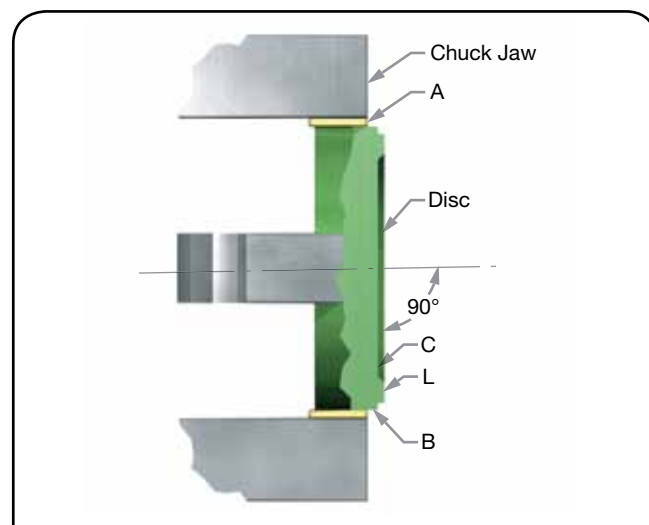

Figure 32: Standard Disc Seating Surface
1. Grip the disc (6) in a four-jaw independent chuck (or collet, if appropriate), using a piece of soft material such as copper or fiber between the jaws and the disc (see Figure 32, A).
2. True-up the disc (6) so that the surface marked B and C run true within .001" (0.025 mm) on the total indicator reading (see Figure 32).
- Discard the disc if the minimum dimension N or T (Figure 16 and Table 3) is reached. Do not reestablish surface C as (see Figure 32).